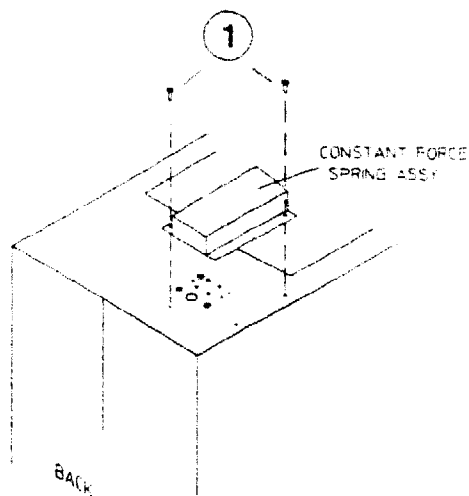

Figure 8-35. Removing the Vertical Tensioner Assembly
Refer to Figure 8-35.
4. Remove the Vertical Cable Tensioner Assembly box from the top of the chassis by removing the screws shown in Figure 8-35.